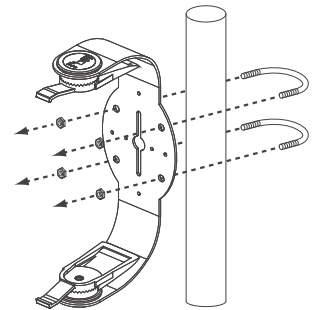

FIGURE 8:
4. If the installation requires that the speakers be mounted on poles you can attach the bracket to poles using 2.5" U-bolts (not included, see figure 8).